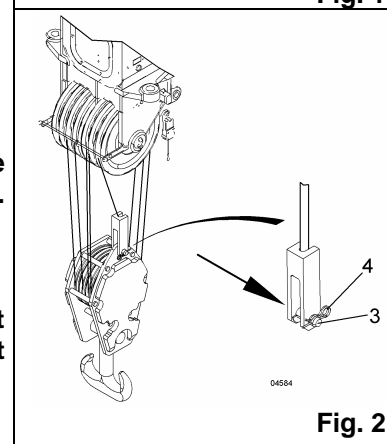

Fig. 2
**on the bottom block** (Fig. 2).
**DANGER** Pin (3) must always be inserted in the direction of the arrow, and be secured by the spring clip (4). Otherwise, there is a risk of collision.